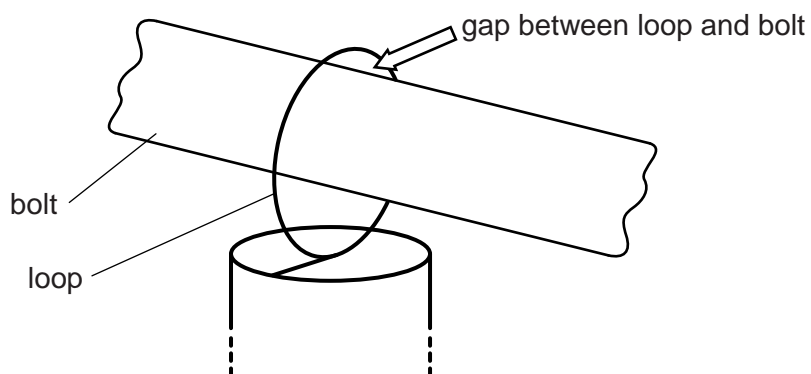

Fig. 2.4
- (ii) Pull the mass down until it touches the bench. Release the mass and watch the loop on the bolt, looking to see if the loop rises above the bolt producing a gap as shown in Fig. 2.4.